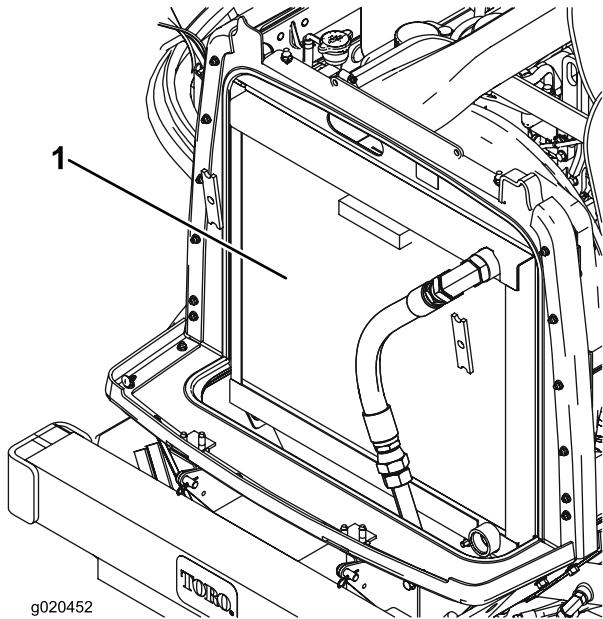

Figure 65
- Clean both sides of the radiator/oil cooler area thoroughly with compressed air (Figure 65).